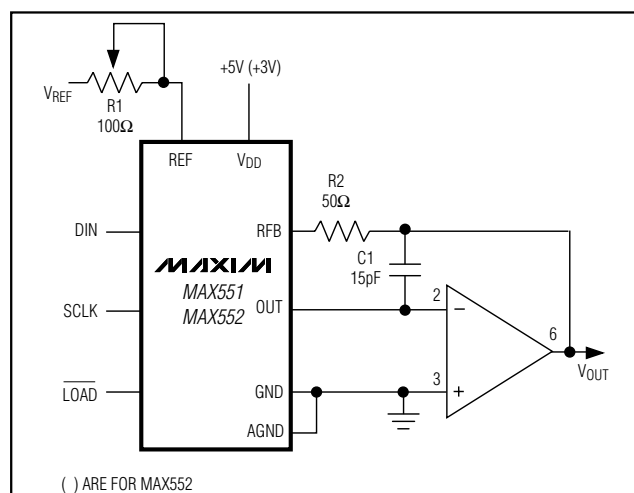

Figure 3. Unipolar Operation
The output current ( $I_{OUT}$ ) can be converted into a voltage by adding an external output amplifier (Figure 3). The REF input accepts a wide range of signals, including fixed and time-varying voltage or current inputs. If a current source is used at the reference input, use a low-tempco, external feedback resistor in place of the
**Table 1. Unipolar Binary-Code Table for Circuit of Figure 3**
Figure 3 shows the MAX551/MAX552's basic application. This circuit is used for unipolar operation or 2-quadrant multiplication. The code table for this mode is given in Table 1. Note that the output's polarity is the opposite of the reference voltage polarity.
In many applications the gain accuracy is sufficient and gain adjustment is not necessary. In these cases, resistors R1 and R2 in Figure 3 can be omitted. If the gain is trimmed and the DAC is operated over a wide temperature range, use low-tempco ( $<300\text{ppm}/^\circ\text{C}$ ) resistors for R1 and R2. Capacitor C1 provides phase compensation and reduces overshoot and ringing when fast amplifiers are used at the DAC's output.
An advantage of voltage mode operation is that a negative reference is not required for a positive output. Note that the reference input (OUT) must always be positive and is limited to no more than 2V when  $V_{DD}$  is 5V. The unipolar and bipolar circuits in Figures 3 and 4 can be converted to voltage mode.